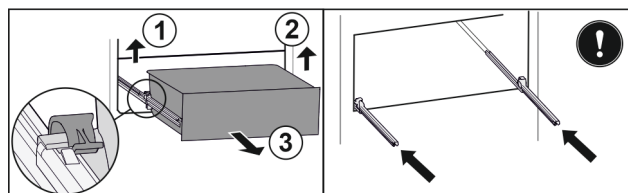

Fig. 111
- Lift left clamp and simultaneously pull drawer forwards on the left. Fig. 111 (1)
- ▶ Lift right clamp and simultaneously pull drawer forwards on the right. *Fig. 111 (2)*
- ▶ Remove drawer to the front. *Fig. 111 (3)*